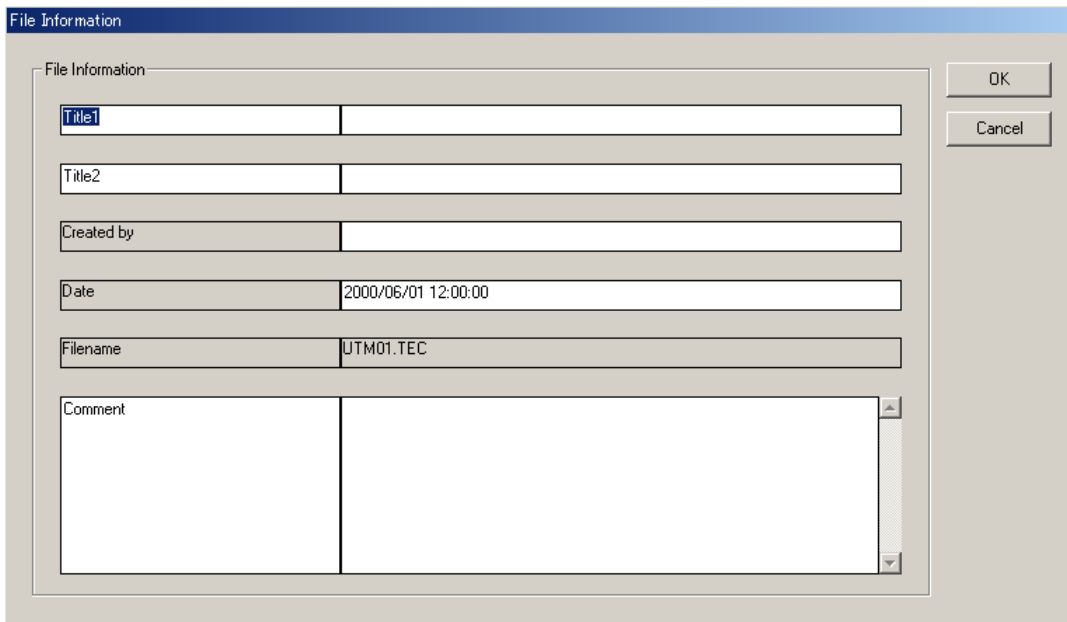

Figure 7.1.1 [File Information] Dialog Box
- (1) From the tool menus, click <File>, then <Information>, then <File Information>. The [File Information] dialog box (Figure 7.1.1) appears.
- (2) Type the necessary item of file information in each text box. (Use the “enter” key of PC to register the necessary items)
- (3) Click the <OK> button. The [File Information] dialog box closes.
- (4) Finally, save the data on disk.